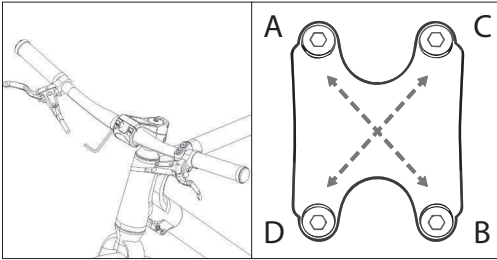

Figure 1-5
- c. Push the handlebars left and right to center them; rotate them slightly so that the brake levers are angled downwards. Then, gradually tighten the screws in an A-B-C-D sequence, as shown in **Figure 1-5**.